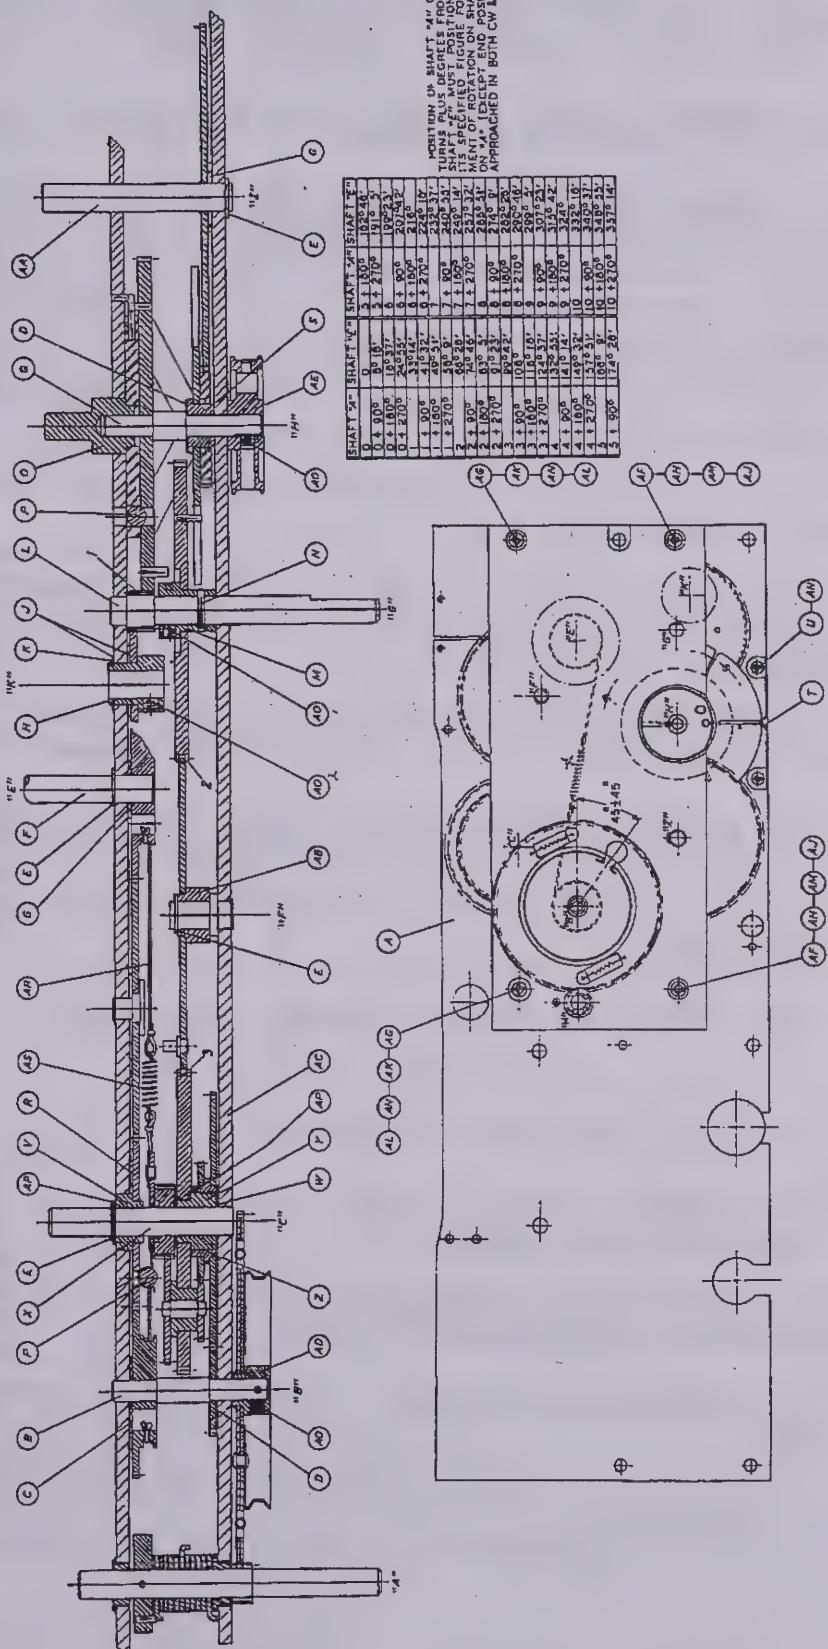

Figure 5-4. 51J-3 Dial and Bandswitch Gear Box
(1) Turn shaft G (BAND CHANGE) clockwise to the stop below band 1. Turn shaft A counterclockwise to the stop.
(2) Scribe a mark across the 85-tooth spider gear that carries the planetary gears, and across the 90-tooth stop-pin gear, using the top of the front gear panel as a guide.
(3) Scribe a radial mark, precisely under the Geneva wheel detent, on the 144-tooth gear that has two stop pins attached.
(4) Using the circumference of the Geneva wheel as a guide, scribe a mark on the 85-tooth gear that drives the Geneva wheel.
(5) Scribe a mark through the edge of the small dial cord pulley and the front gear panel.
(6) Remove pin from hub of large dial cord pulley.
(7) Remove large dial cord pulley and gear.
(8) Remove small dial cord pulley.
(9) Remove retaining ring from shaft I (shown as shaft Z in the front view of gear plate in figure 5-4).
(10) Using a pair of right angle TRUARC pliers or two bent (right angle) scribes, remove retaining ring from shaft F.
(11) Measure and record the length of loading spring using a pair of dividers
(12) Remove four mounting screws from front gear panel.
(13) Remove front gear panel, being very careful not to let shafts ride up with plate. While removing this panel, do not allow gears to unmesh or rotate.
(14) Keep shim washers with respective gears or shafts.
(15) Before moving or disengaging any gears other than the 90-tooth gear on shaft F, scribe a line through detent spring, 48-tooth detent gear, and rear gear panel, and another line through the 52-tooth gear on shaft E and rear gear panel.
(16) Mark all gears being removed in such a manner that they may be identified later for reassembly.
(17) If the overtravel coupler is removed, note that the disc and gear are detented. Do not lose detent ball.
(18) Make all necessary repairs. If any parts that have been scribed are to be replaced, be sure to scribe the new parts in exactly the same manner before placing them in the equipment. If the loading cord is to be replaced, form a small loop at one end of each of the two pieces to provide anchors for the spring. Push free ends of the cords through the proper pulley-holes. Knot the free ends after allowing for five inch lengths of cord between the loops and knots. Coat the knots with Duco cement.
(1) Shaft G should now be against the clockwise stop, and should detent when turned counterclockwise approximately 45° . The ball on shaft C will now detent shaft G every 180° .
(2) When shaft G is turned counterclockwise $7\frac{1}{2}$ revolutions, or 15 detent positions from the first detent position, the pin in the 144-tooth gear on shaft H (figure 5-4), and the radial pin on the overtravel disc rotate clockwise until the radial pin just touches or is about to touch the pin in the rear gear panel. Further rotation of shaft G causes the pin in the gear to leave the radial pin that was stopped by the pin in the rear gear panel. Thus the overtravel coupler output shaft, which drives r-f switches S101 through S107 (figure 4-2), rotates 300° for the first 16 detent positions of shaft G and remains at that setting for further counterclockwise rotation of shaft G.
(3) Shaft G should rotate 14 more detent positions or 7 revolutions from the sixteenth detent position, and should hit the counterclockwise stop approximately 45° past the thirtieth detent position. If the stop pins intersect before this, adjust them by changing phase relations of the gears at points 1, 2, and 3, shown in figure 5-4. Before deciding to change the relative positions of these gears, double check the conditions in steps (1), (2) and (3). If instructions in paragraphs 5.6.2. and 5.6.3. were followed precisely, operation of the BAND CHANGE gear train should meet the conditions set forth in these steps.
(4) The Geneva wheel should turn one notch when shaft G turns counterclockwise from an even-numbered to an odd-numbered detent position. (Count the first detent position from the clockwise stop as number 1.) Thus shaft I should rotate through 14 positions, or 280° , for 30 detent positions, or $14\frac{1}{2}$ turns, of shaft G. The initial position of shaft I should correspond to detent positions 1 and 2 of shaft G, the second shaft I position should correspond to detent positions 3 and 4 of shaft G, and so on through to the thirtieth detent position of shaft G.
on shaft E and the 48-tooth detent gear on shaft C are still set at their respective scribe marks. Place pulley and gear assembly far enough on shaft B to engage the rear section of the split gear with the 15-tooth gear on shaft A. Be sure that groove-pin holes on shaft and hub are lined up and that the pulley slot is within 45° of the position shown in figure 5-4. Rotate front section of split gear so that springs stretch to 3/4 inches. Engage front section with 15-tooth gear on shaft A. Replace groove pin and tighten set screw.